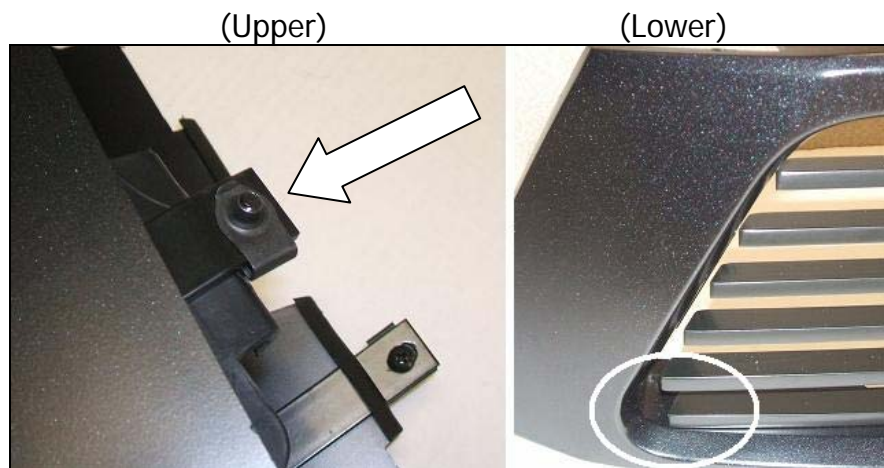

Figure 17
23. Align the Grille in the surround opening with equal distance at the left and right ends. Push the upper mount full forward and tighten the top two (2) upper Pinch Bracket screws. Align the lower corners as shown and tighten the bottom two (2) lower Pinch Bracket screws. Refer to Figure 17.